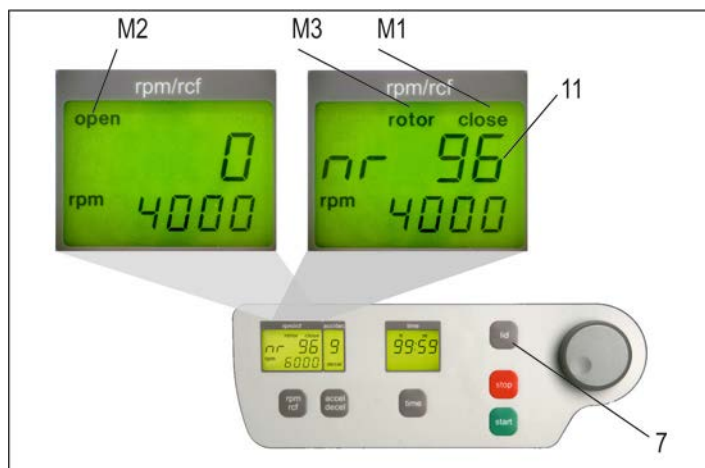

Figure 12
For all number marked text, please refer to Figure 12.
The lid must only be closed slightly. An electromagnetic lid lock closes the lid, the word "open" (M2) will no longer be displayed. As a sign that the centrifuge is ready for starting, appearing in the display, "rpm/rcf"(A-1), the word "close" (M1). Simultaneously, the word "rotor" (M3) appears, as well as the code number of the rotor, which is in the centrifuge, i. e. „nr 96“ (11) along with all rotor specific data, for example: max. speed, acceleration etc., are available, (see Figure 12).